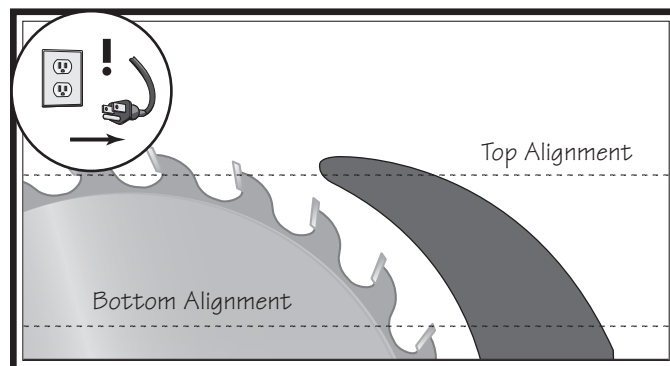
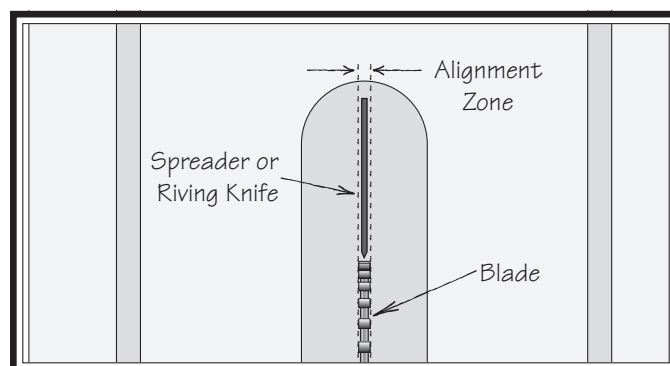

Figure 128. Checking top and bottom riving knife parallelism with blade.
Figure 129. Spreader/riving knife alignment zone.
3. Place straightedge against side of blade and spreader/riving knife at top and bottom, as shown in **Figure 128**. Spreader/riving knife should be parallel with blade along its length at both positions, and in "Alignment Zone," as shown in **Figure 129**.
2. Bend spreader or ripping knife by hand while installed, then follow **Steps 1-3 in To check spreader/ripping knife alignment on Page 73** to determine if it is parallel with blade and inside "Alignment Zone" (refer to **Figure 128 on Page 73**).